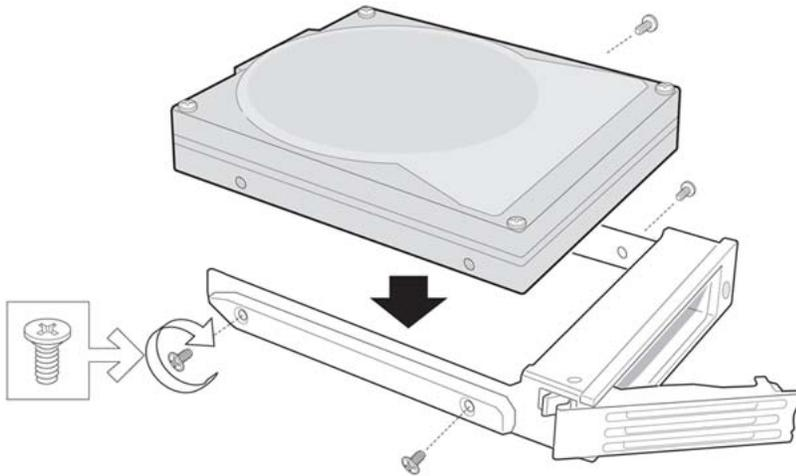

Figure 19: Hard disk drive location in carrier
9. With the drive circuit-side down, position the connector end of the drive so that the end is facing the rear of the drive carrier. For more details, see Figure 19: Hard disk drive location in carrier on page 80.